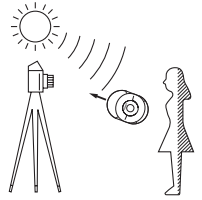

Fig. 6
In this mode, measurements are taken by directing the lumisphere ① (light sensor) directly at the camera's lens from the subject's position. (Fig. 6)